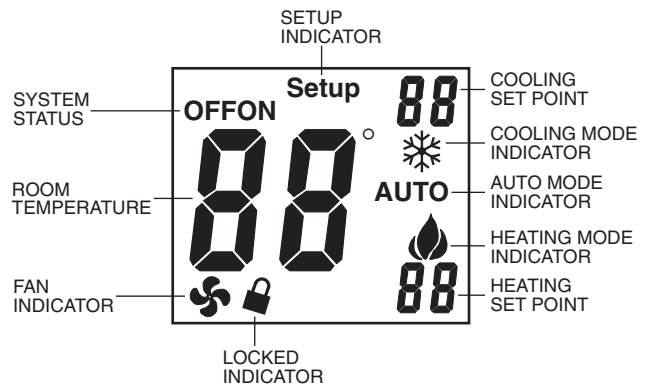

Fig. 1 — Thermostat Display
**Thermostat Display** — The thermostat display is located in the center of the thermostat. See Fig. 1. The following information can be displayed on the screen: